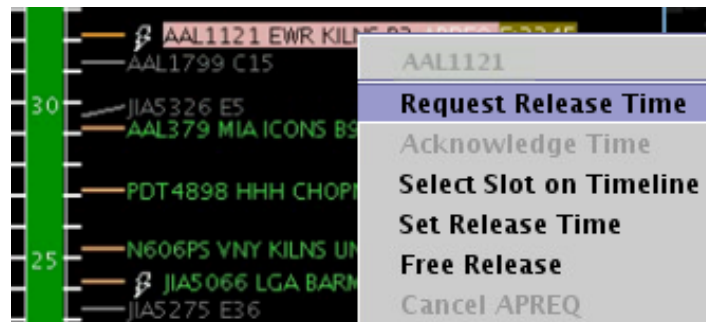

Figure 151. Right-click on APREQ flight to “Request Release Time.”
**Step 1:** Right-click on the APREQ flight’s Timeline datablock (Figure 151).